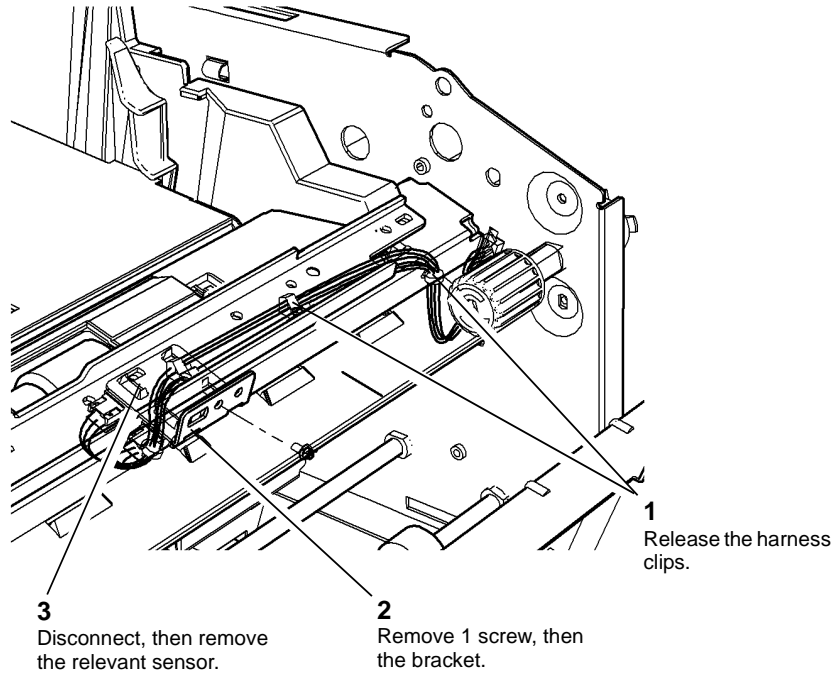

Figure 1 Sensor removal
- Remove the relevant sensor, Figure 1.